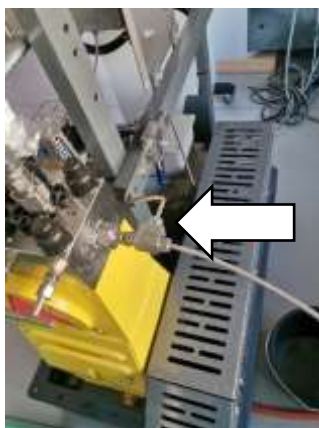

Fig.49: Manual Valve
2. Release pressure through the manual valve found on the pump (Fig.49+50/Arrow). Open Valve until you can hear a short hissing.